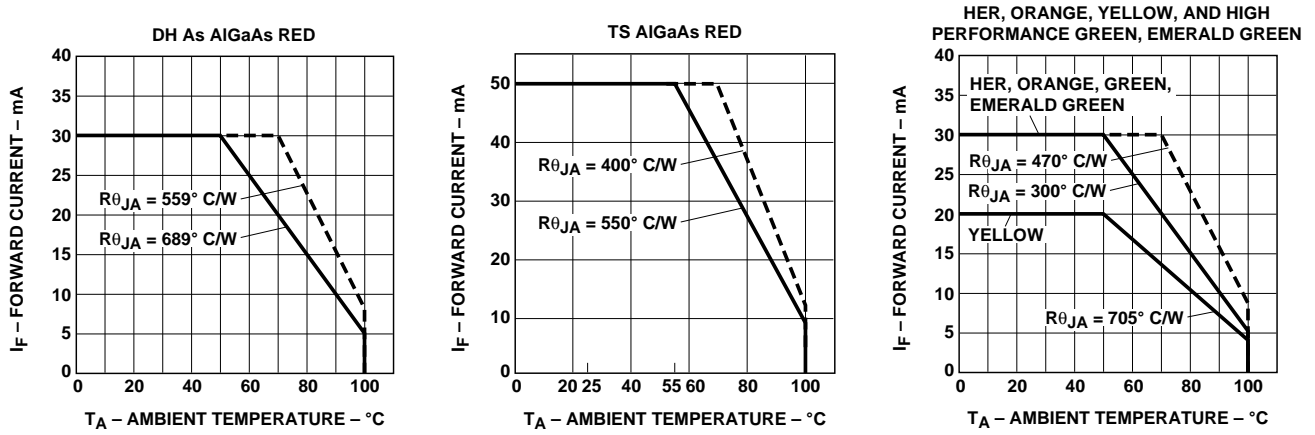

Figure 5. Maximum Forward dc Current vs. Ambient Temperature. Derating Based on T_jMAX = 110°C
1. See Figure 5 for maximum current derating vs. ambient temperature.